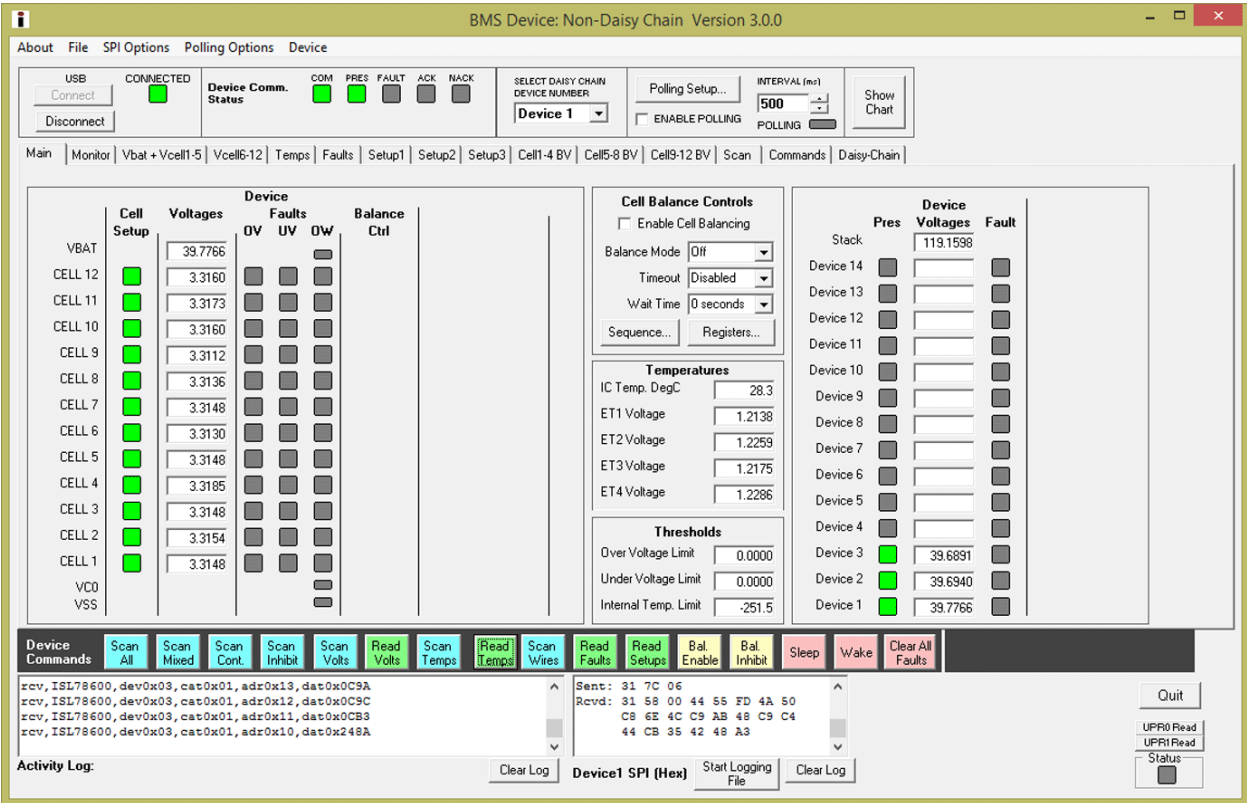

FIGURE 6. MAIN GUI WINDOW - THREE CASCADED DEVICES
3. Open the ISL78600 GUI software. From the Startup screen, the software will take you to the Configuration Screen. See Figure 6 on page 9. For a stand-alone configuration, select "Non-Daisy Chain" in the BMS Configuration Box, then click "OK." For a daisy chain configuration, select "Daisy Chain" in the BMS Configuration Box and select the number of devices in the daisy chain, then click "OK." The GUI will return to the main screen and automatically connect to the system.
6. The "Device Commands" buttons along the bottom of the main tab are commands sent to all boards in the system. Thus, selecting "Scan Volts" then "Read Volts" causes all boards to read the cell voltages and temperatures, update the ISL78610 register values, and the GUI display boxes. (Note: these buttons send separate commands to each board. It does not send a "Scan All" or "Read All" command) see Figure 6.